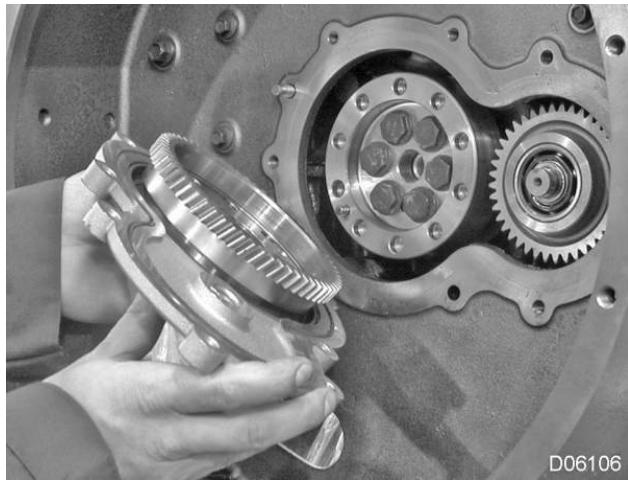

Figure 7 Remove Secondary Flange Gear and Rear Oil Seal Retainer
7. Remove the secondary flange and the rear oil seal retainer as a unit (Figure 7).